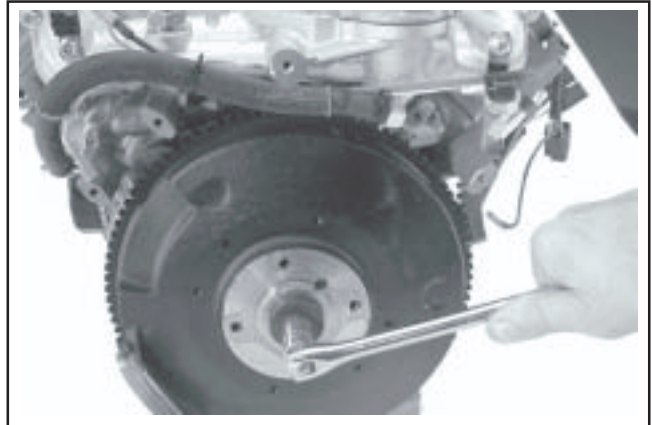

Figure 9-38. Removing Flywheel Screw and Washer.
1. Use a flywheel strap wrench or holding tool (see Section 2) to hold the flywheel. Remove the hex. flange screw and flat washer. See Figure 9-38.